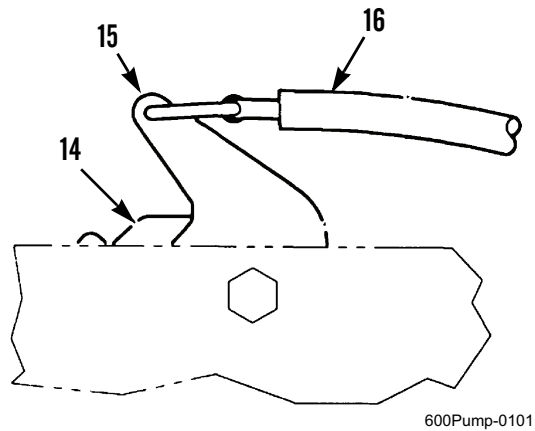

Figure 5. Breakaway Cable and Lever.
9. Pull breakaway cable (Figure 5, Item 16) at hydraulic brake actuator until breakaway lever (Figure 5, Item 15) is in locked position secured by leaf spring (Figure 5, Item 14).